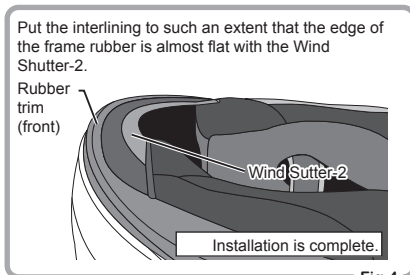

Fig.4
- ④ Put the interlining to such an extent that the edge of the frame rubber is almost flat with the Wind Shutter-2. The attachment of the Wind Shutter-2 is complete (Fig.4).